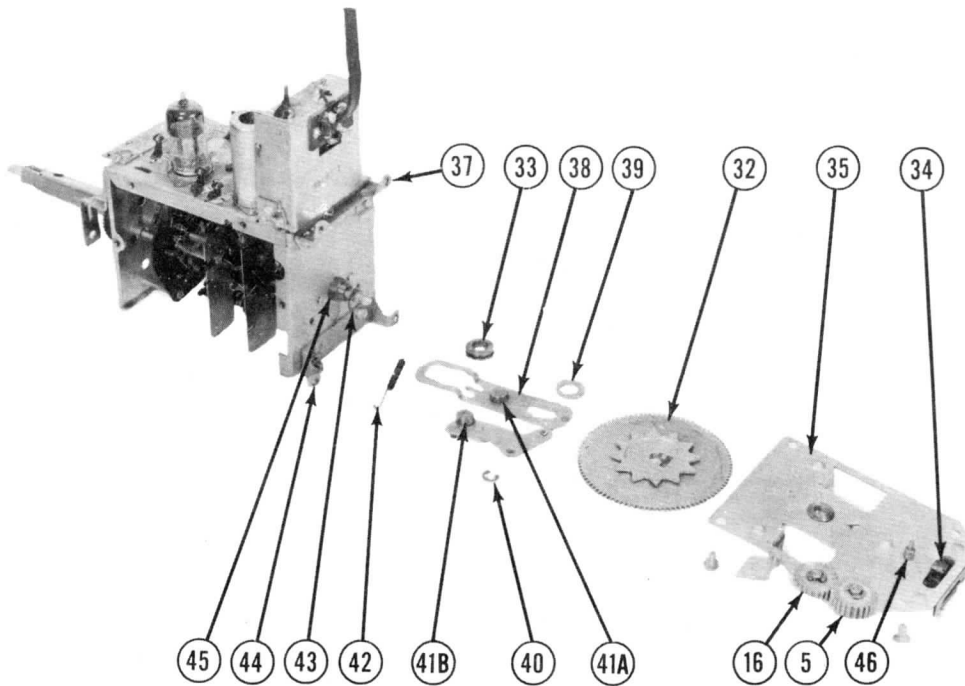

FIGURE 5.
When the station selector switch on the Control Box (2) is operated, the motor and channel selector solenoid are energized. As the magnetic force set up by the solenoid pulls the clutch and gear assembly (21) inward, closing the solenoid switch (10), a tooth of the clutch engages with the toggle of the ordinary driver (9) and starts the tuner shaft (11) rotating. The roller (41A) (See Fig. 5) fastened on the centering lever is subjected to an upward force as well as a lateral force by the star wheel of the detent plate assembly (32). Until the centering lever (38) has traveled far enough sideways to close the cycling switch (34), the centering pin (46) will prevent any upward motion. The cycling switch (34) is in series with the solenoid switch (10) and together parallel the station selector switch in the control box. If the station switch on the control box is released before the cycle is completed, voltage is still applied to the solenoid through the cycling switch (34) and the solenoid switch (10). When